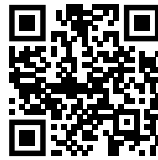

Fig. 180
- Open Liebherr SmartMonitoring Dashboard. (see Fig. 180)